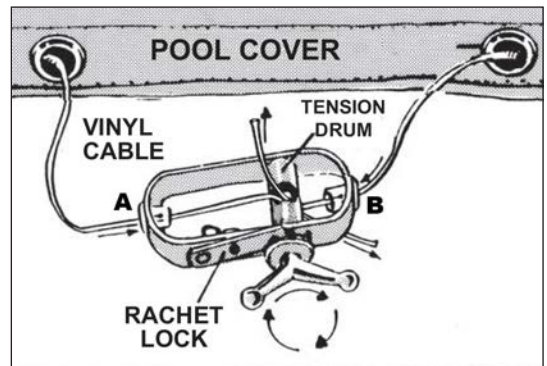

figure 3
6. Insert one end of the cable through opening A and the other end through opening B of ratchet. Bring both ends through the opening in the tension drum from opposite directions. (figure 3) Pull ends through until cable appears reasonably taut around pool edge.